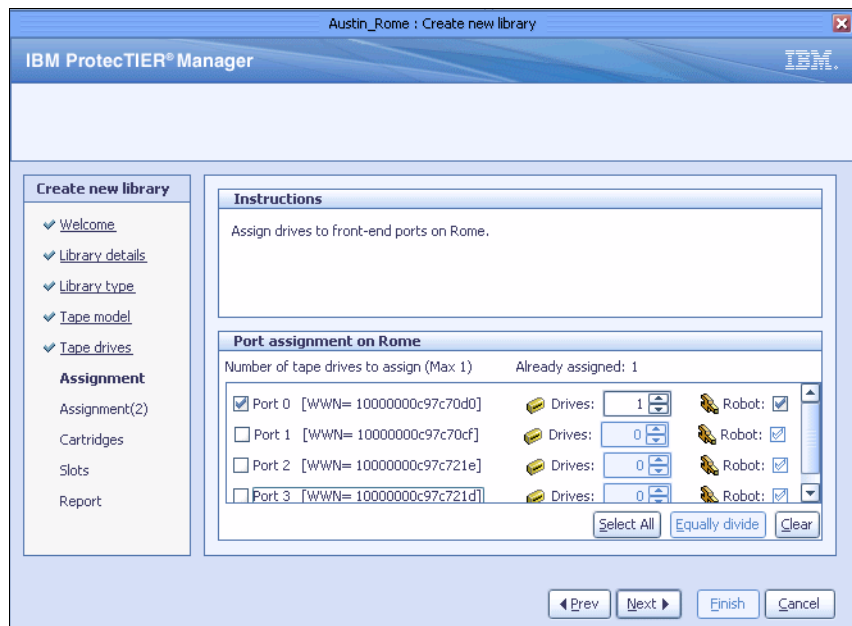

Figure 6-33 Port Assignment menu
- We have the ability to assign the created tape drives to ports in each node and to define or change control paths. Because we defined only one drive per node, ProtecTIER Manager, by default, assigns it to the first port on the node. The checked Robot box means that the control path will be enabled for that drive. Clear the other ports, as shown Figure 6-33.